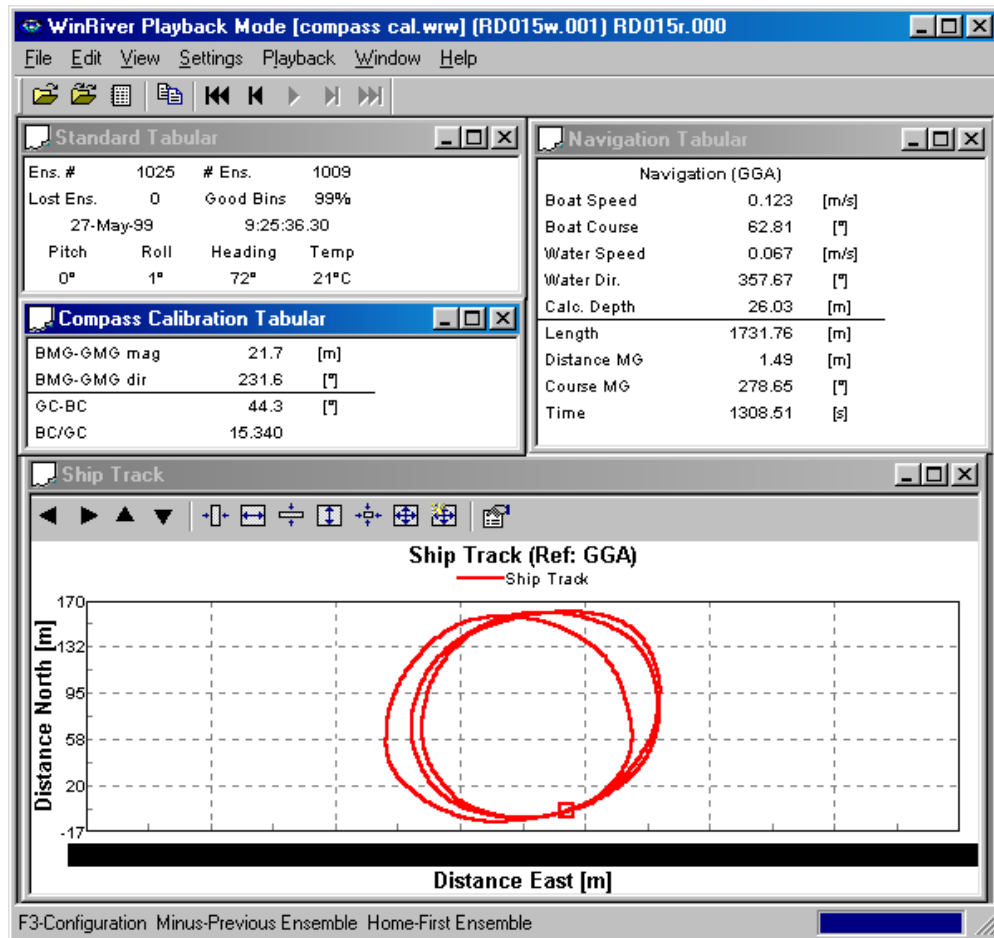

Figure 35. Method 2 Compass Correction Procedure
If you don't have a marker available that allows you to return to the same location (within 30 cm), you can still determine the one-cycle correction factors. For this procedure, *GPS is used as the reference* rather than the dock or stationary marker used in Method 1. The magnitude of the non-closure error is estimated by the magnitude of the **BMG-GMG** vector, and the **BMG-GMG** angle is the course made good direction. The ratio between distance made good and the length of the track (**BMG-GMG** and **Length**, respectively on the *WinRiver* display in Figure 35, page 68) is the magnitude of the one-cycle compass error and the one-cycle offset is the **BMG-GMG** angle.
- f. Drive in a circular course with a circumference of about 1000 meters or larger (as large as possible). It is important to make a large circular track to make a good estimate of the one-cycle compass correction factors, and it is also important to make the path as close to a true circle as possible. Use the **Ship Track** screen to help make the circular course at a slow steady speed. If your location does not allow you to run a large circular course, you can run several continuous circles (say 3 to 10) being sure to pass as close as possible to your original starting point as you complete each circle. You would then use the combined course length from all of the circles in determining the one-cycle errors as described in the following steps. In Figure 35, page 68, three circular tracks were made to provide a total track length of 1731.76 m.
- h. Record the **BMG-GMG** vectors (magnitude and direction) and **Length** values. For example, in Figure 35, page 68, the **BMG-GMG Direction** is 231.6°, the **BMG-GMG Magnitude** is 21.7 m, and the **Length** is 1731.76 m.
- i. Take the ratio between **BMG-GMG Magnitude** and **Length**; this is the magnitude of the One-Cycle Error (**One Cycle K**). In our example as shown in Figure 35, page 68, you would determine the ratio as $21.7/1731.76 = 0.0125$. The **BMG-GMG Direction** 231.6° is the One-Cycle Error Offset (**One Cycle Offset**).